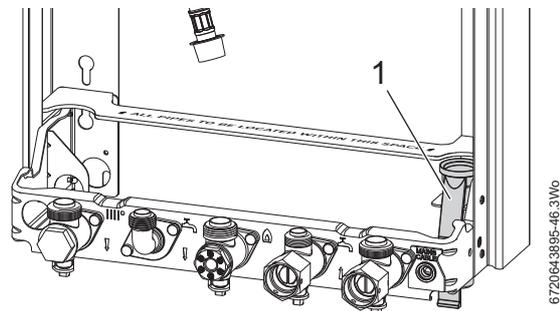

Fig. 64 Pressure relief drain pipe
► Referring to figure 64, check pressure relief drain pipe (1) is correctly fitted and securely tightened.